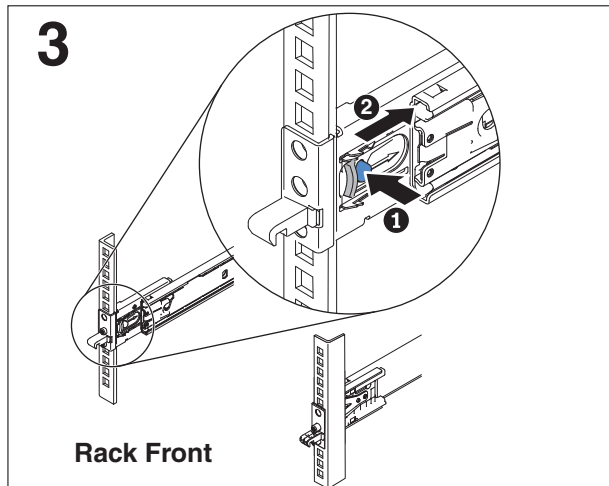

Figure 38. Removing the front end of the slide rails
2. Remove the front end of the slide rails, as shown in Figure 38 on page 57.